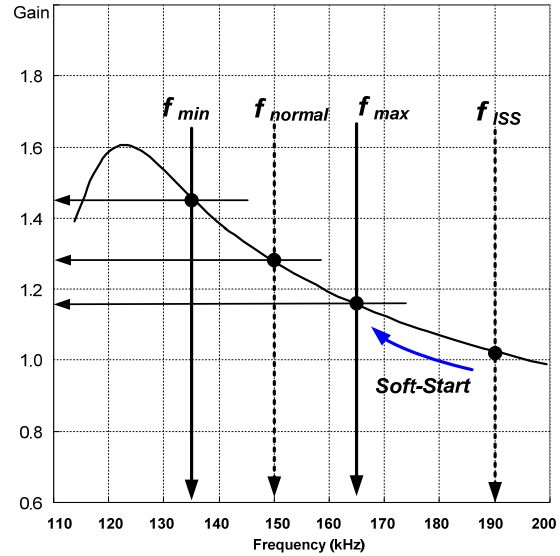
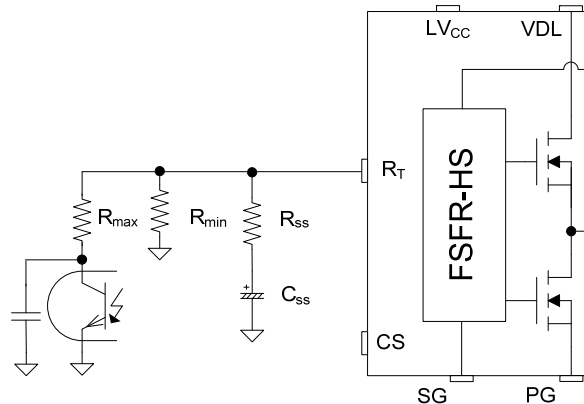

Figure 20. Resonant Converter Typical Gain Curve
Figure 21. Frequency Control Circuit
**3. Frequency Setting:** Figure 20 shows the typical voltage gain curve of a resonant converter, where the gain is inversely proportional to the switching frequency in the ZVS region. The output voltage can be regulated by modulating the switching frequency. Figure 21 shows the typical circuit configuration for the RT pin, where the opto-coupler transistor is connected to the RT pin to modulate the switching frequency. The switching frequency may be controlled from 20 kHz to 500 kHz.
The soft-start circuit is constructed by connecting R-C series network to the RT pin, as shown in Figure 21. Initially, the operating frequency is set by the parallel impedance of  $R_{SS}$  and  $R_{min}$ .